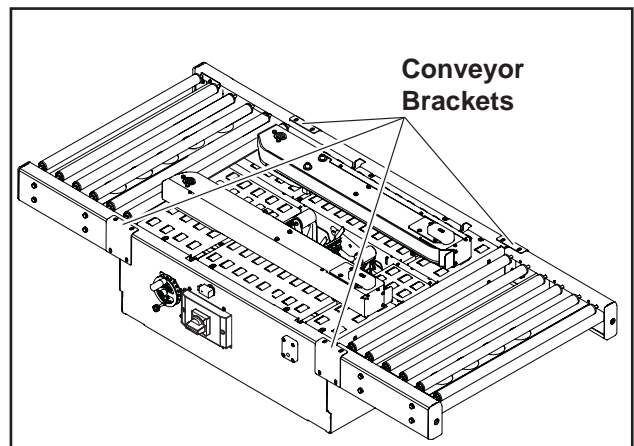

Figure 3 Conveyor Brackets:
7. Repeat procedure for all applicable brackets on your machine - **Figure 3**.